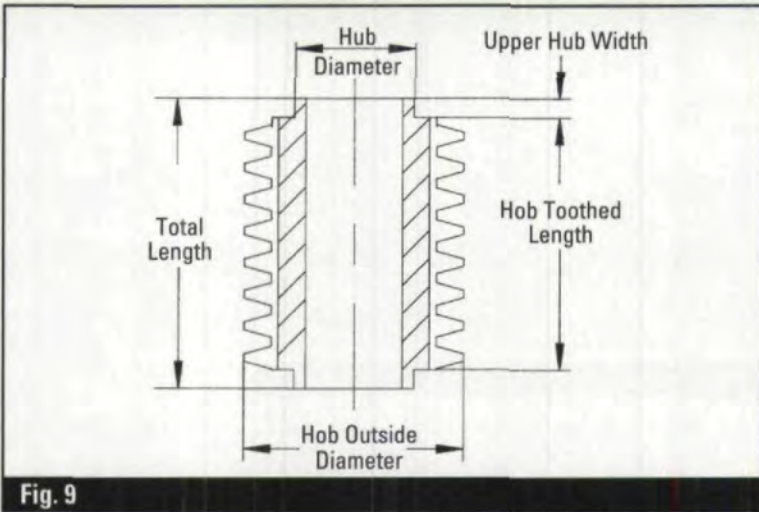
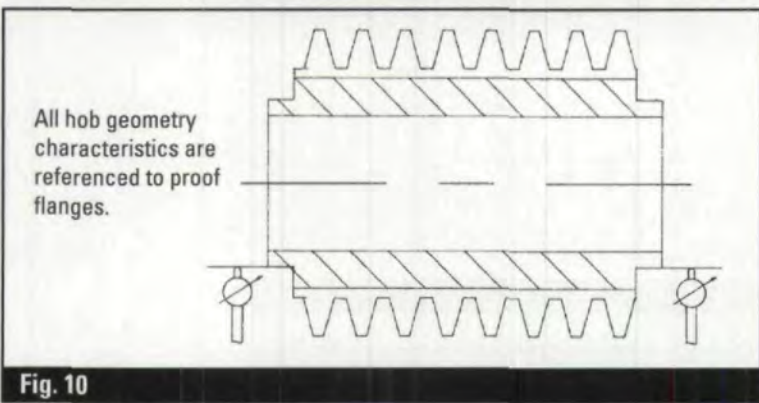

Fig. 9
Fig. 10
14. Thoen. "High-Grade Fine-Pitch Gearing," Fig. 9.
Most hobs have ground proof diameters or hubs on both sides (Fig. 9). These diameters are used by operators to indicate a hob when mounting it on the machine (Fig. 10). All hob geometrical characteristics are referenced to proof diameters. Usually proof diameters are checked first.